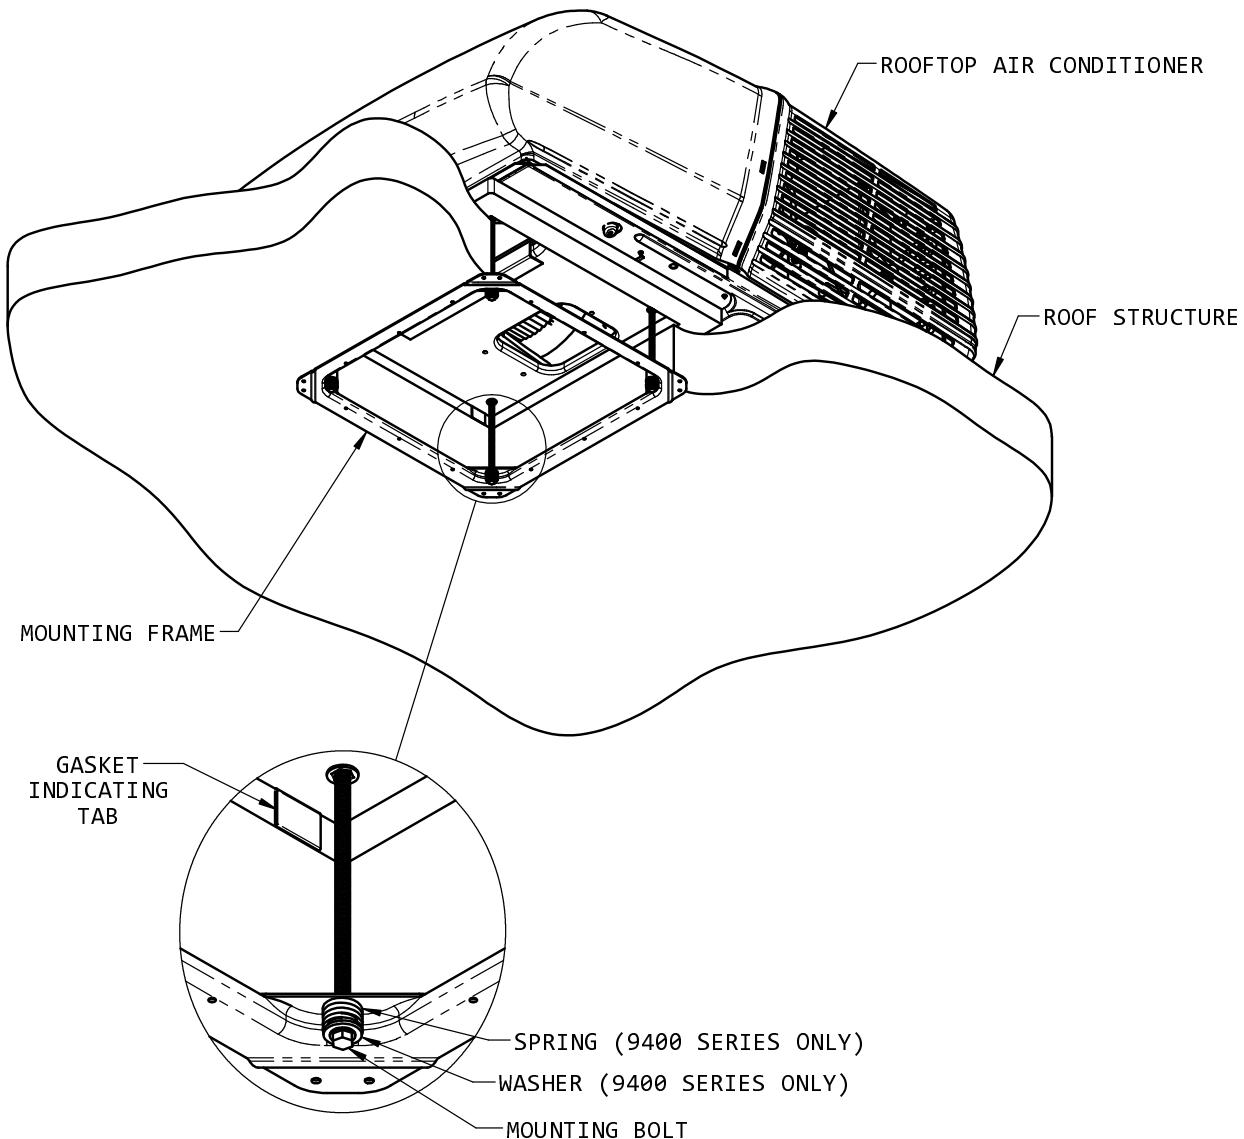

FIGURE 4
A mounting frame is supplied with the ceiling assembly. Follow the steps below to secure the air conditioner to the roof. Refer to Figure 4.
- B. Install the ceiling assembly mount frame using the four bolts found with the ceiling assembly. The 9400 series ceiling assemblies also utilize mounting springs and washers over the bolts (See Figure 4).
- C. When mounting springs are utilized, proper tension has been achieved for each bolt when the spring coils have just come together. When mounting springs are not utilized, proper tension has been achieved for each bolt when any portion of each gasket indicating tab has been pulled down even with the roof. See Figure 4. The upper unit has now been properly installed with optimum gasket compression.